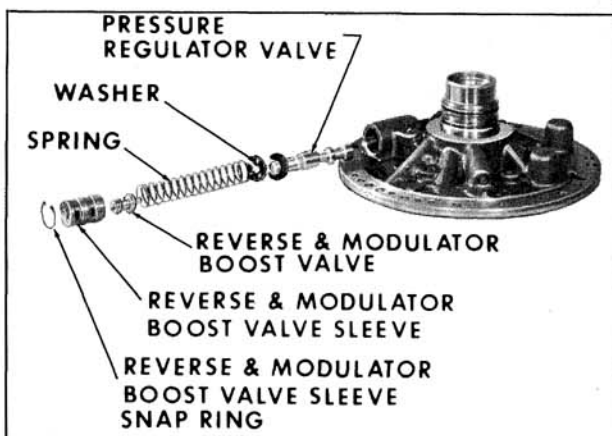

Fig. 6-423 Pressure Regulator Valve—Exploded View
5. Assemble pressure regulator valve, washer, spring, reverse and modulator boost valve and sleeve. (Fig. 6-423)